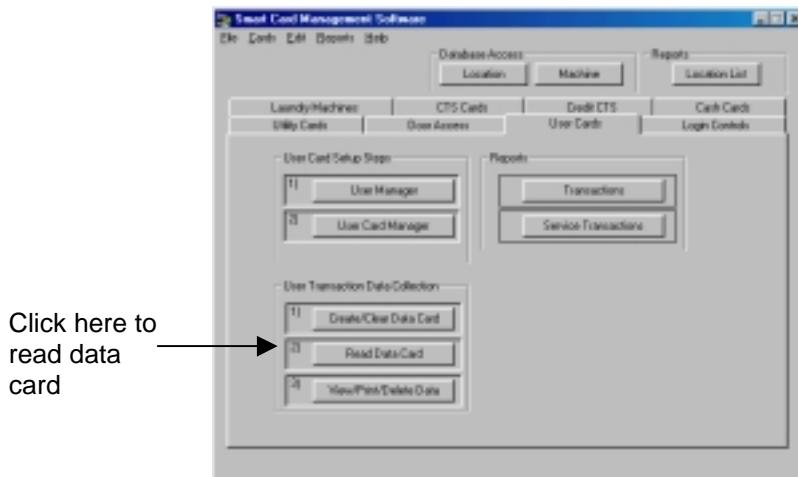

Figure 6.13 Reading a User Data Card
2. Click the Read Data Card button in the User Cards tab (Figure 6.13).